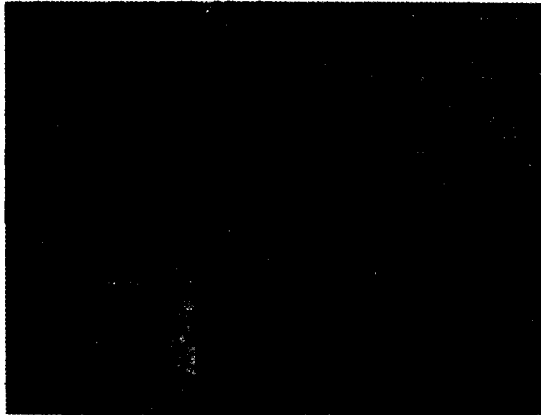

Figure 119. Right side view of steering gear with cover removed
a. General. The steering system is comprised of the hydraulically assisted steering gear (fig. 119), steering wheel, hydraulic oil reservoir (fig. 120), hydraulic pump (fig. 120), relief valve (fig. 120), and steering linkage (refer to fig. 123).
c. Steering Gear. The steering gear (fig. 119) is of cam and lever type, to which has been added a hydraulic power system. A lever inside the steering gear housing is actuated by rotation of a cam at the lower end of the steering shaft, which turns with the steering wheel. This causes the upper end of the pitman arm (refer to fig. 122), which is secured to the opposite end of the lever shaft, to move either forward or backward, according to the direction of rotation of the steering wheel. The movement of the pitman arm is transmitted through the steering linkage (refer to fig. 123) to the steering knuckles and wheels, steering the
vehicle. Rotation of the steering shaft also changes, by means of a cam actuated lever, the relationship of the inlet and outlet valves inside the control valve assembly mounted on the steering gear jacket. This permits hydraulic oil to be pumped into the appropriate side of the power cylinder piston, which is connected to the lever inside the steering gear housing (fig. 119), to assist in moving the pitman arm (refer to fig. 122).
99. Steering Gear (Fig. 119)